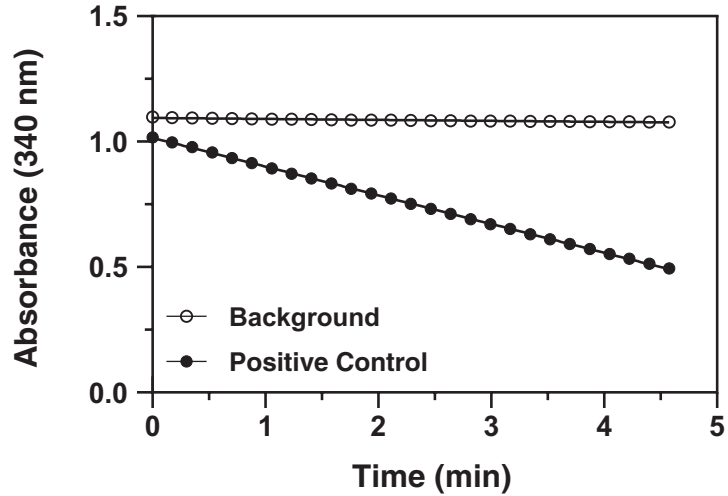

Figure 3. Activity of porcine heart AST
- Plot the absorbance values as a function of time to obtain the slope (rate) of the linear portion of the curve (a graph is shown using porcine heart AST, see Figure 3, page 16).